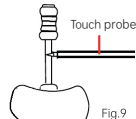

Fig.9
- 7.2.6. 7.2.6. The file probe may also be used instead of the file clip to touch the file when working on posterior to determine the working length of the canal. (Fig.9)